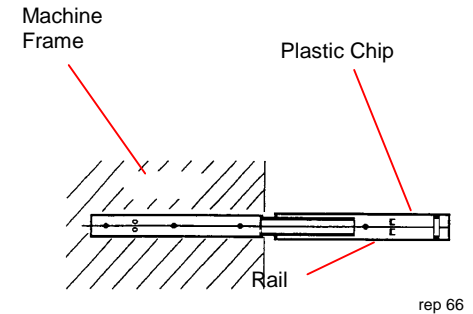

Figure 2. Reinstalling the Rails
1. (Figure 2): Reinstall the rails so that the plastic chips face the Drawer.